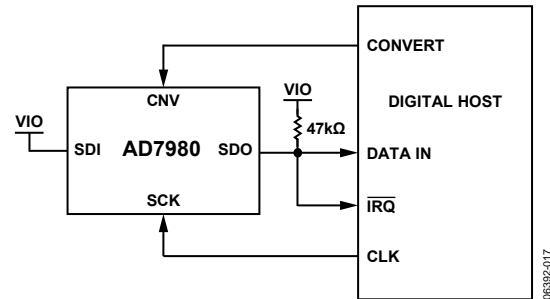
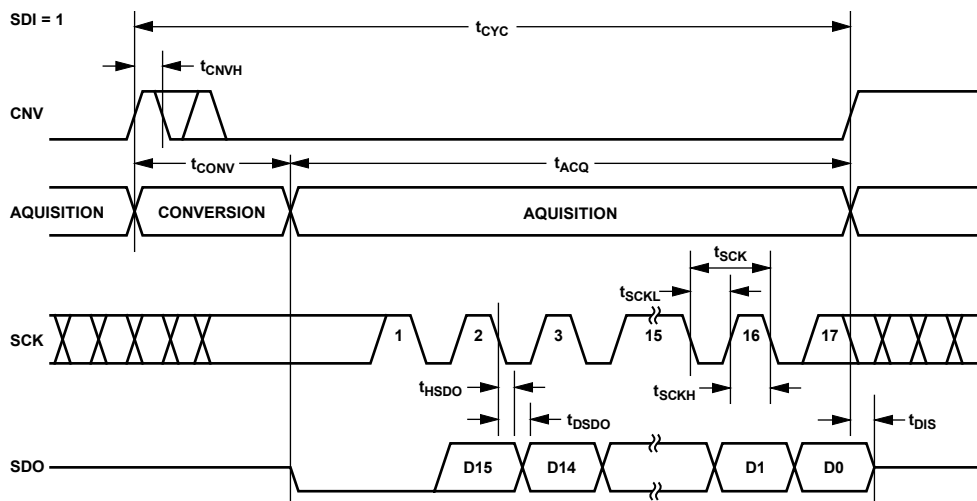
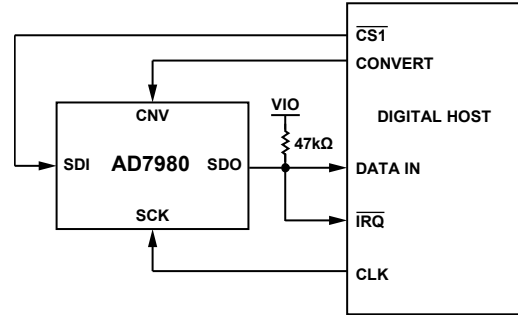
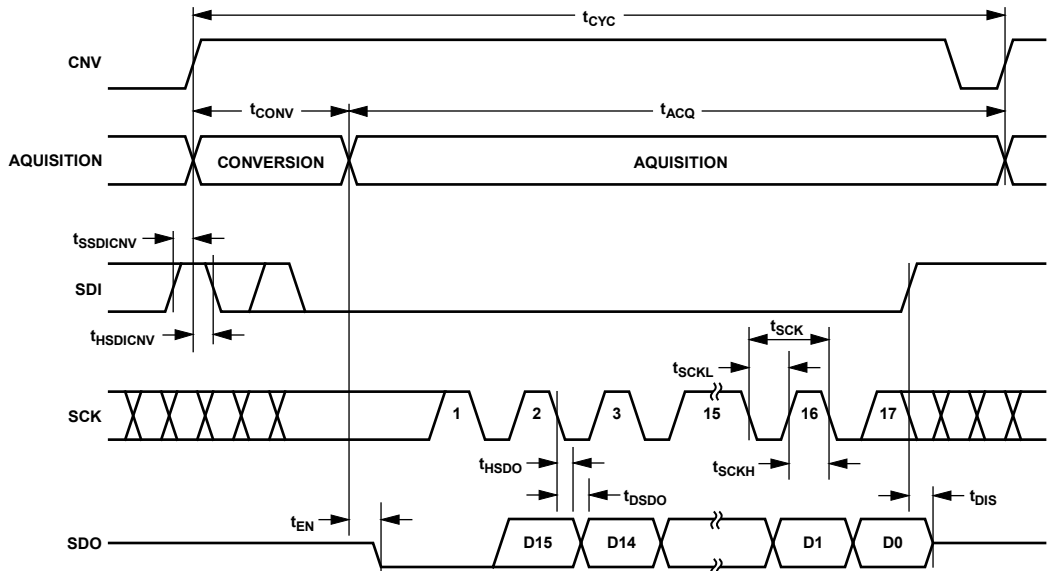

Figure 33. 3-Wire  $\overline{\text{CS}}$  Mode with Busy Indicator Connection Diagram (SDI High)
Figure 34. 3-Wire  $\overline{\text{CS}}$  Mode with Busy Indicator Serial Interface Timing (SDI High)
Figure 37. 4-Wire  $\overline{CS}$  Mode with Busy Indicator Connection Diagram
Figure 38. 4-Wire  $\overline{CS}$  Mode with Busy Indicator Serial Interface Timing
- In the  $\overline{\text{CS}}$  mode if CNV or SDI is low when the ADC conversion ends (see Figure 34 and Figure 38).
The connection diagram is shown in Figure 33, and the corresponding timing is given in Figure 34.
The connection diagram is shown in Figure 37, and the corresponding timing is given in Figure 38.